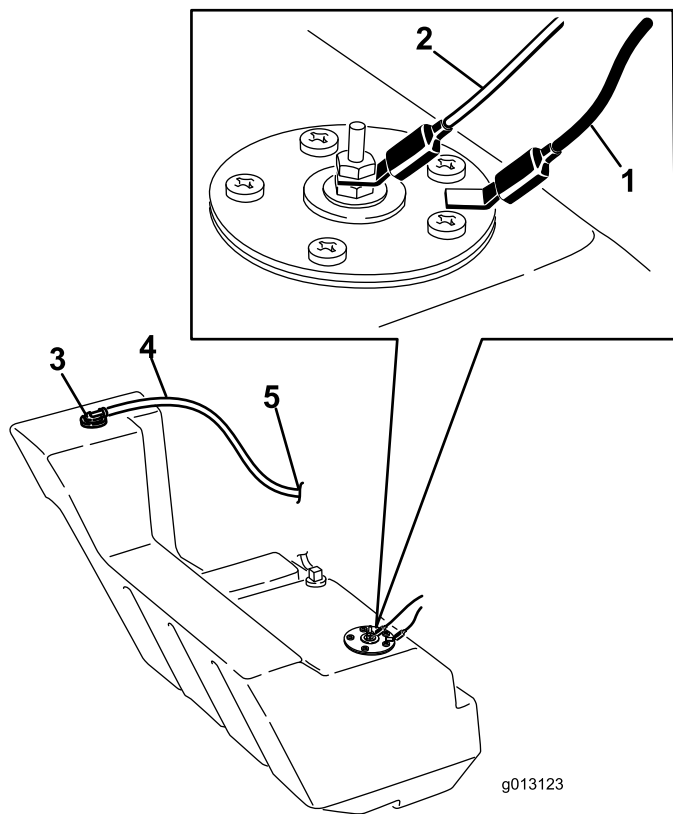

Figure 59
11. Disconnect the two wires leading to the right side of the tank (Figure 59).
20. On the right side of the tank, connect the orange wire to the center post and the black wire to the outside post (Figure 59).